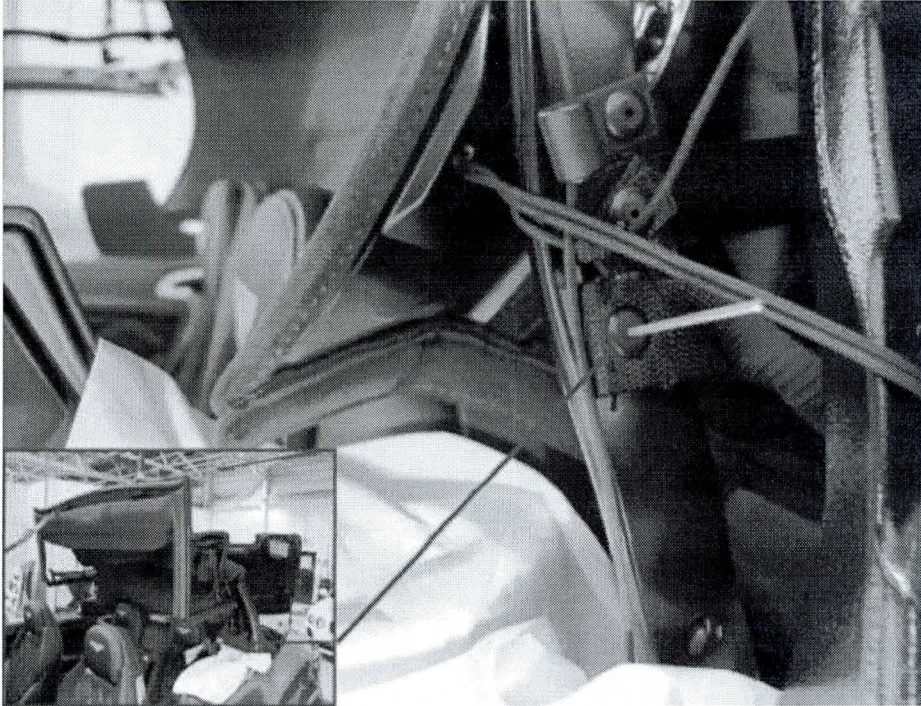

Figure 3
Note: To carry out the following procedures, the power operated roof assembly will have to be positioned partially open in a transient state. With the ignition on any transient roof position will only be maintained for 10 minutes after which a warning will sound prior to the roof assembly gradually folding down as the hydraulic pressure decays. Therefore to enable the following operations to be carried out the roof has to be secured using 2 ratchet straps linked together (part number T10038) (see inset Figure 3)
Note: Only check and if necessary repair the rivet on the left hand twin bow as shown in figure 3.
3. Referencing figure 3, identify the lower rivet on the left hand twin bow. With the roof positioned as shown in figure 3. Drill out the rivet (see Figure 4), **ensure no trim or cords are in contact with the rotating surfaces of the drill.**